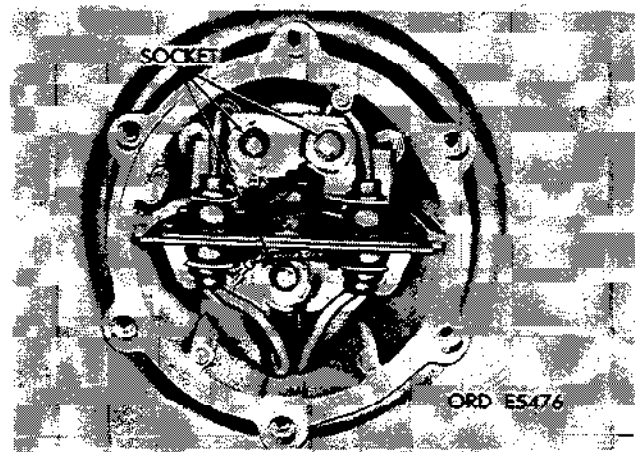

Figure 2-207. Remove lamp (M151, M151A1, M151A1C and M718).
(2) Press lamp in and turn counterclockwise and remove lamp (see fig. 2-207). Install new lamp. Install door and screws.